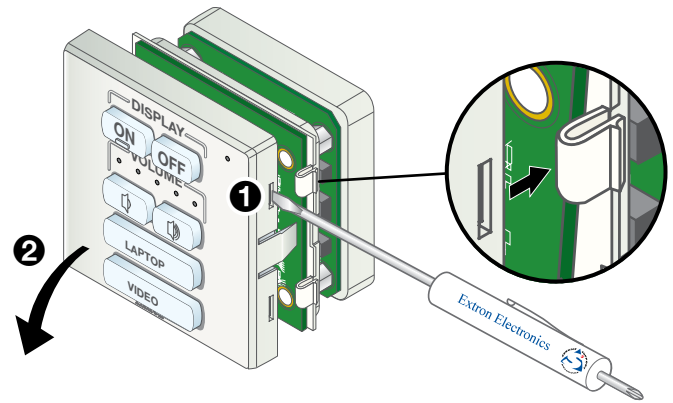

Figure 6. Releasing the Button Plate
1. Insert a small flat-bladed screw driver into one of the slots (see figure 6, ①). There are two slots on each side.
4. Tilt the top of the bezel forward so the buttons do not fall out as you remove it (②).